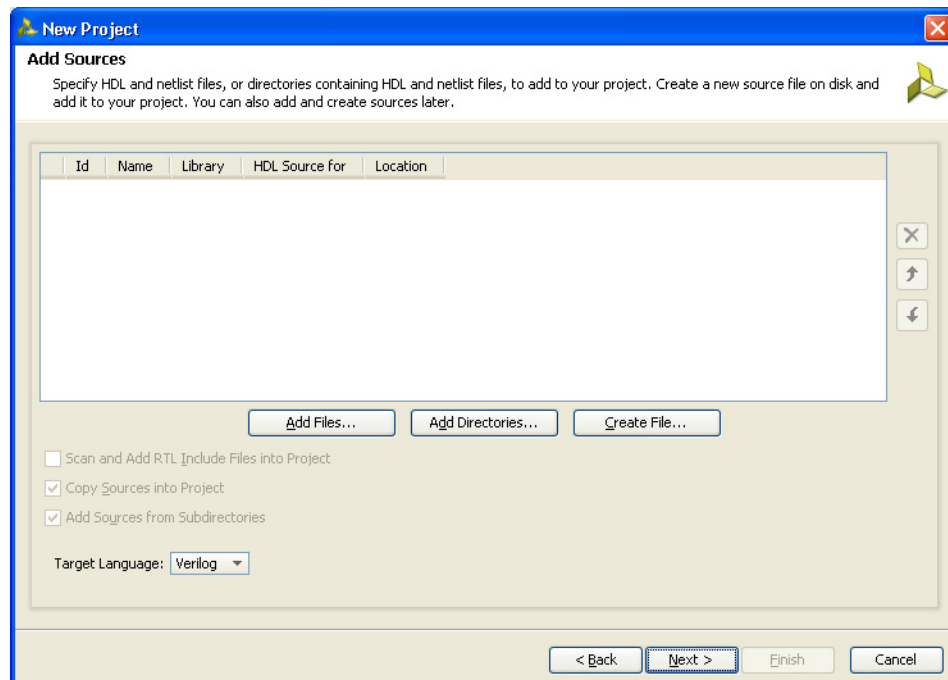

Figure 1-5: Add Sources
- Click **Next** to proceed to the Add Sources page (Figure 1-5). RTL files can be added to the project in this page. If the project was not created earlier, proceed to the next page.